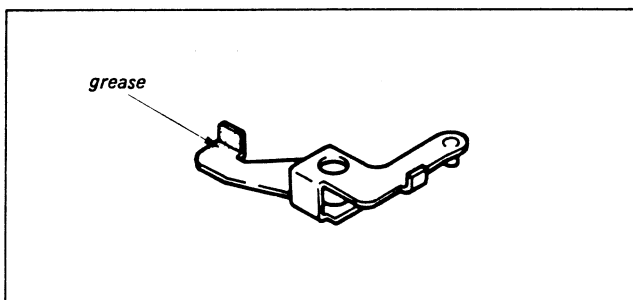

Fig. 3-39.
- 4) Apply grease. (See Fig. 3-39)